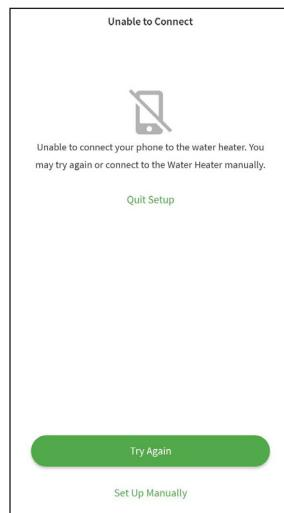

Figure 150 - Unable to Connect Device
**⚠️ HELP:** If your device is unable to connect to the water heater, or if the water heater is unable to connect to your preferred Wi-Fi network (Figures 150 & 151), you may choose to select “Try Again” or select “Set Up Manually” at the bottom of the screen to begin the manual Wi-Fi configuration process.